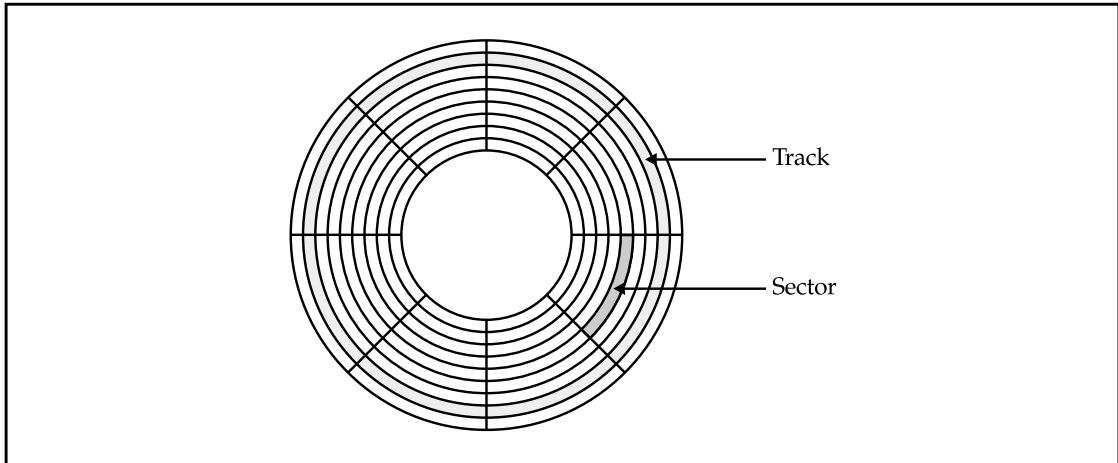

Figure 9-8. Tracks and sectors on a disk platter
- ▼ **Tracks** As illustrated in Figure 9-8, *tracks* are concentric areas on the disk that complete one circumference of the disk. On a hard disk, there can be 1,000 tracks or more. The first track, which is where data is usually written first, is along the outermost edge of the disk. Tracks of the same number on all platters of the drive form a *cylinder*.
- **Sectors** *Sectors* divide the disk into a number of cross-sections that intersect all of the tracks on the disk. Sectors break tracks into addressable pieces, as illustrated in Figure 9-8. A sector is typically 512 bytes in length, and disk drives have from 100 to 300 sectors per track. Without a sector division, a track could only be addressed at its beginning, wherever that would be. Sectors provide segment beginning points on the tracks as well as the disk as a whole.